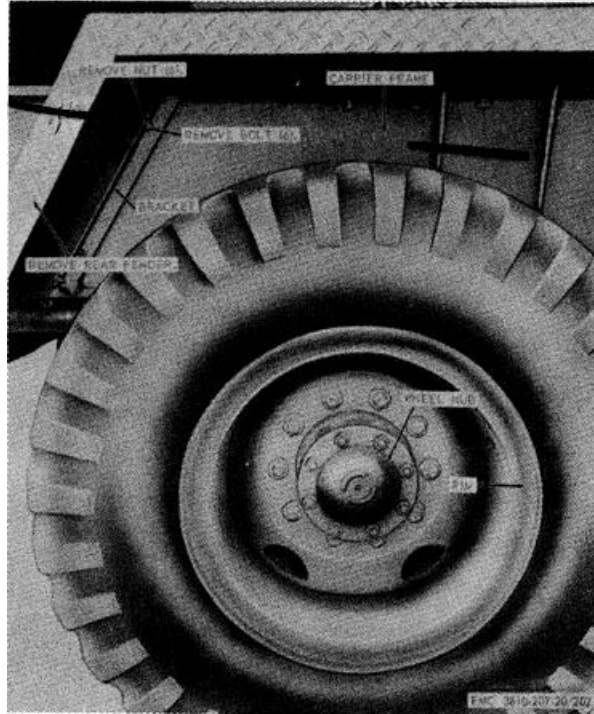

Figure 202. Carrier rear fender, removal and installation.
a. Removal. Remove the carrier rear fenders as instructed on figure 202.
- (1) Clean all parts with an approved cleaning solvent.
- (2) Inspect the fender for cracks, breaks, or bends. Replace a damaged fender.
- (3) Repair or replace damaged parts as necessary.
c. Installation. Install the carrier rear fenders as illustrated on figure 202.